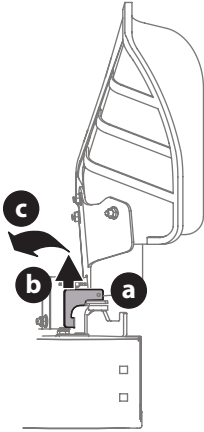

Figure 14
1. The chute is shipped attached and with a stop bracket holding the chute upright. The stop bracket must be removed prior to operating the tractor (Figure 14).
2. Holding the chute deflector fully upward, remove the stop bracket (Figure 14):